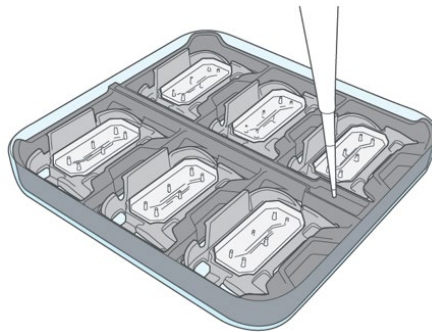

Figure 11: Fill central reservoir of Chip Cradle with 0.75 mL of DPBS
8. To prevent evaporation during ECM incubation, fill the central reservoir with 0.75 mL of DPBS 1x (Figure 11), place the lid onto the 120 mm square dish, and incubate overnight at 4°C.